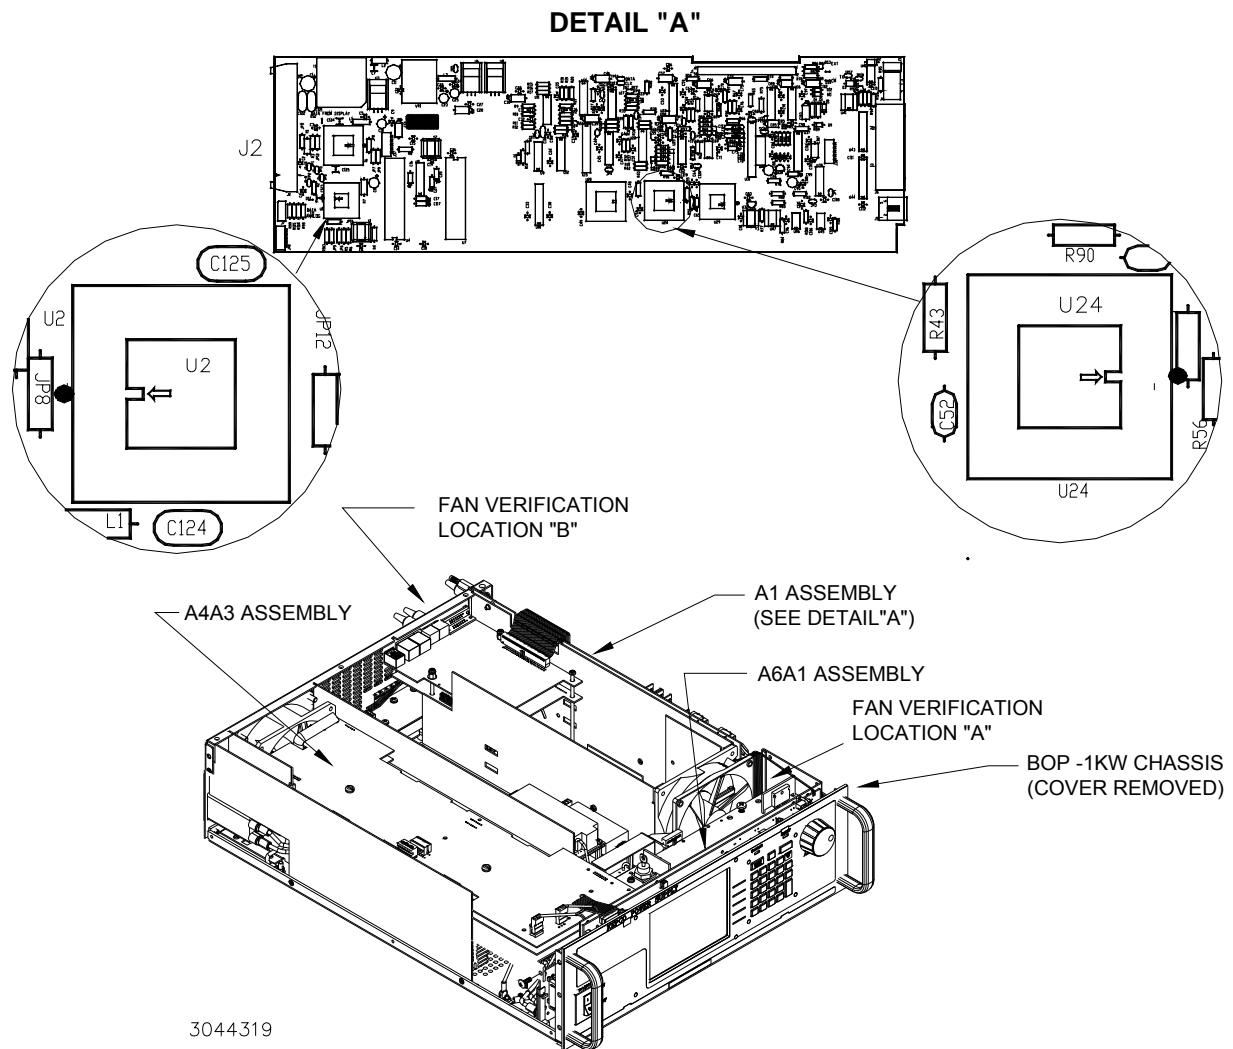

FIGURE 2. ASSEMBLIES A1 AND A6A1 LOCATIONS AND DIGITAL BOARD A1 PROM LOCATIONS
3.3 DIGITAL BOARD A1 PROM U2 AND U24 REPLACEMENT (SEE FIGURE 2)
1. On Digital board A1, locate PROM, U24 (see Figure 2).
6. Insert the PROM into the socket, insuring the dot on the chip is oriented as shown in Figure 2.
9. Insert the PROM into the socket, insuring the dot on the chip is oriented as shown in Figure 2.
1. Power up the unit and hold a piece of paper near the vent holes at the top cover near the front panel (see Figure 2, Fan Verification Location "A"). Verify that the paper is suctioned down towards the cover.
2. Hold a piece of paper to the rear panel (see Figure 2, Fan Verification Location "B") and verify the paper flutters indicating it is being expelled from the unit